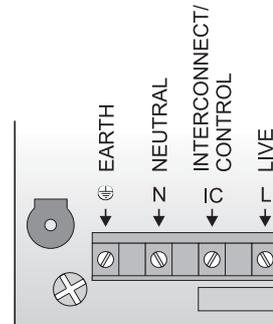

Figure 2
- 6 Connect the wiring as shown in *Figures 2 & 3* previously. **Note:** the Earth connection is for convenient termination of the earth conductor and is not required for the safety of the unit. The wiring should be installed securely (e.g. tie wrap together) to prevent a hazard if one becomes detached.